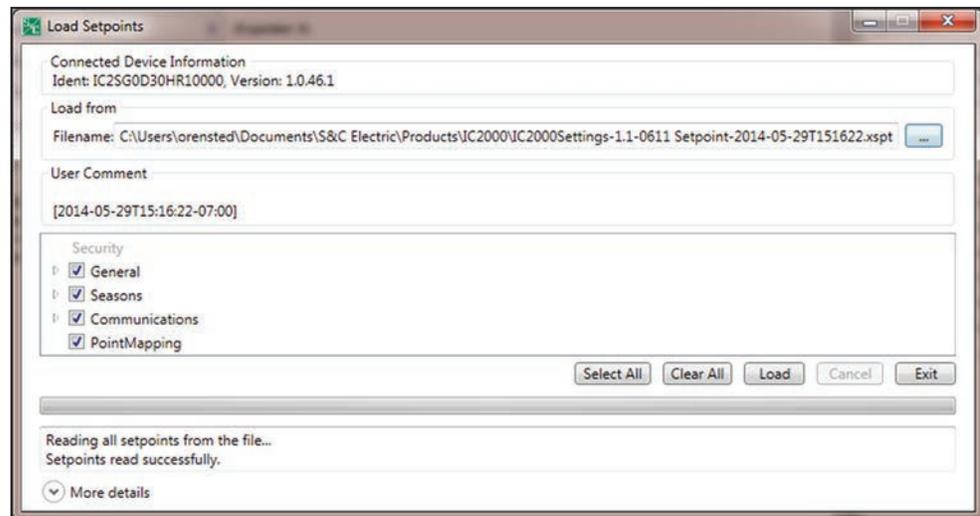

Figure 44. Load Setpoints dialog box.
**STEP 4.** Use the converted settings file to configure an IntelliCap 2000 control. To upgrade an IntelliCap 2000 control with a converted settings file, connect to the device with IntelliLink software, and select the **Load Setpoints** option. Choose the converted file to load, and select which group of settings to load. See Figure 44. Click on the **Load** button.